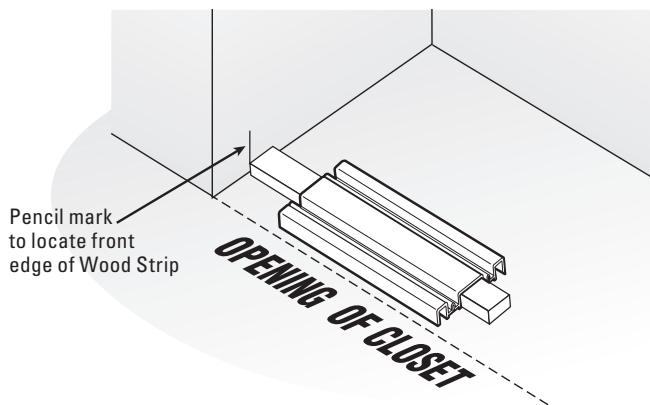

Figure 3
E. Place the front of the Wood Strip up to the pencil mark on wall (See **Figure 3**). Do this on both sides. Install the Wood Strip.